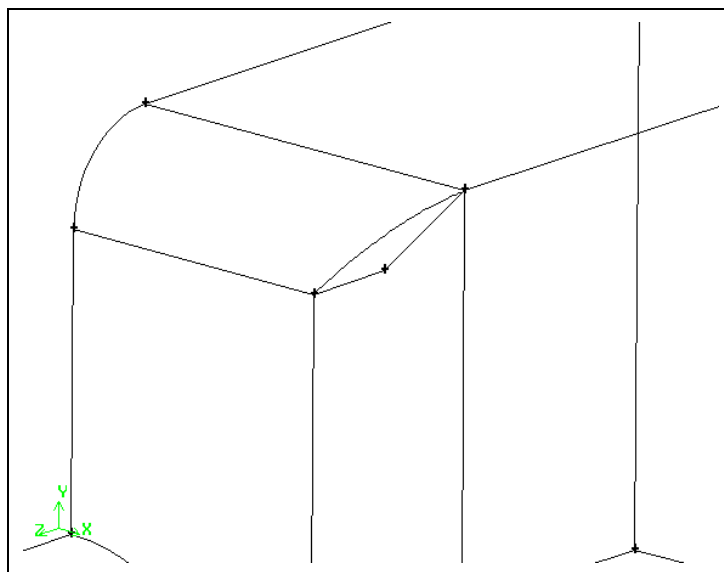

Figure 4-15: Two new straight edges
*The edges are shown in Figure 4-15.*